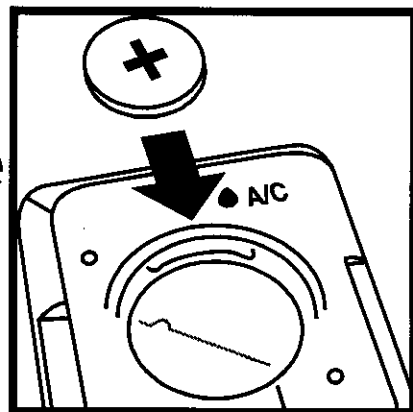

Fig. 22
4. Turn the computer display face-down. Place the battery into the computer with the positive "+" side visible (Fig. 22).